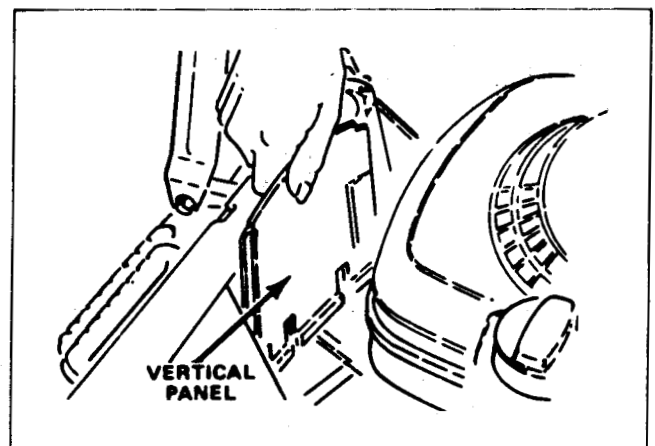

Figure 30
- Install the black plastic transmission cover. See Figure 30.